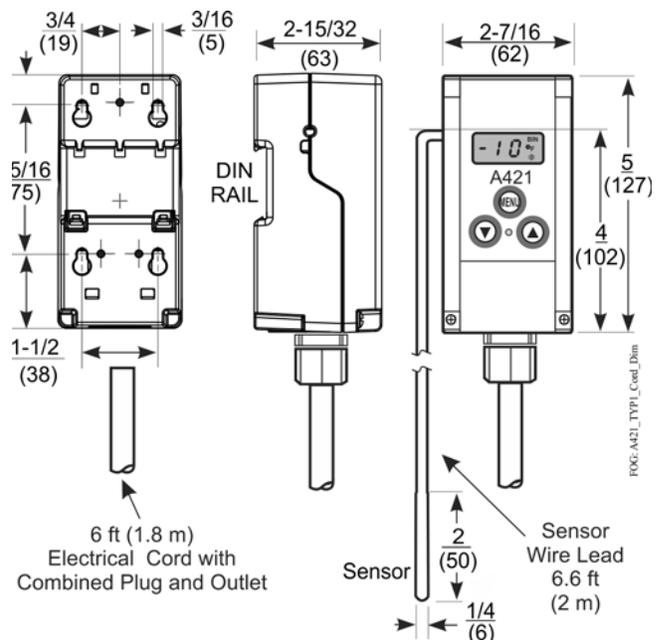
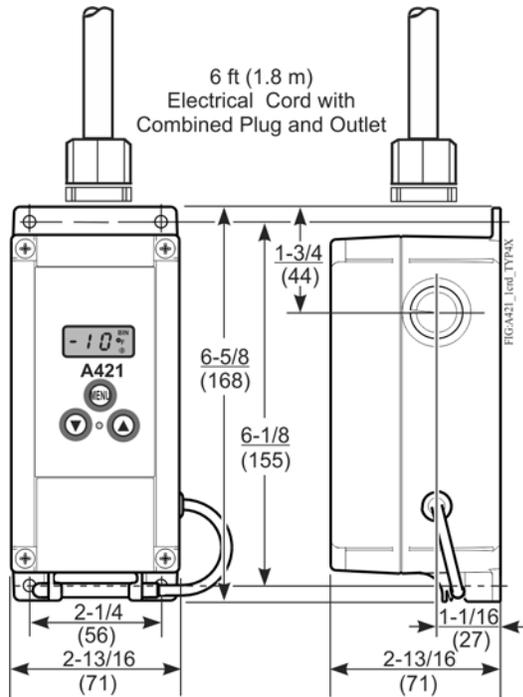

Figure 1: A421 Control with Type 1 (NEMA), IP20 Enclosure Dimensions, in. (mm)
Figure 2: A421 Control with Type 4X (NEMA), IP66 Enclosure Dimensions, in. (mm)
The A421 controls are available either in Type 1 (NEMA), IP20 (CE), high-impact plastic enclosures suitable for surface or DIN rail mounting (Figure 1) or in Type 4X (NEMA), IP66 (CE) watertight, corrosion-resistant surface mount enclosures (Figure 2).